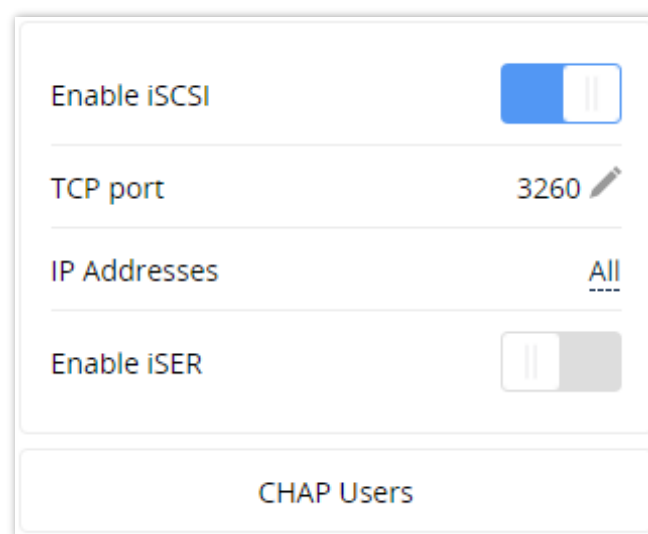

Figure 38. Enabling iSCSI
2. To turn on iSCSI, in the pane, toggle the **Enable iSCSI** switch to the **On** position (Figure 38).